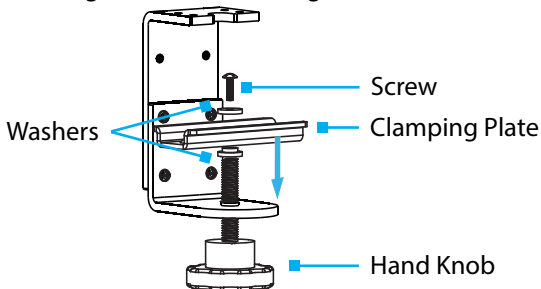

Figure 9
2. Install the **Screw** through the **Washer, Clamping Plate, Washer** and onto the **Hand Knob**. Use a **Phillips Head Screwdriver** to tighten the **Screw**. (Figure 9)